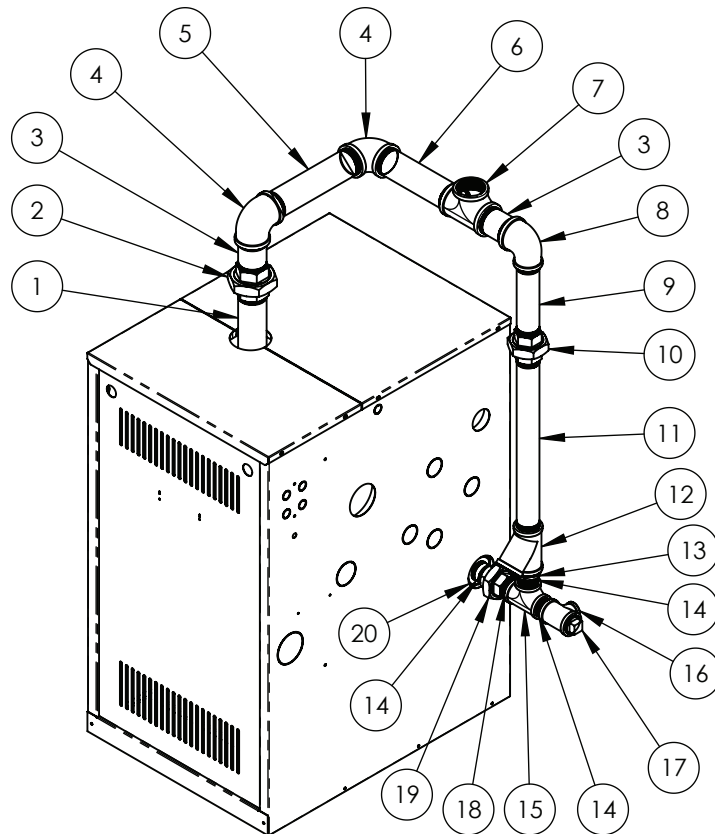
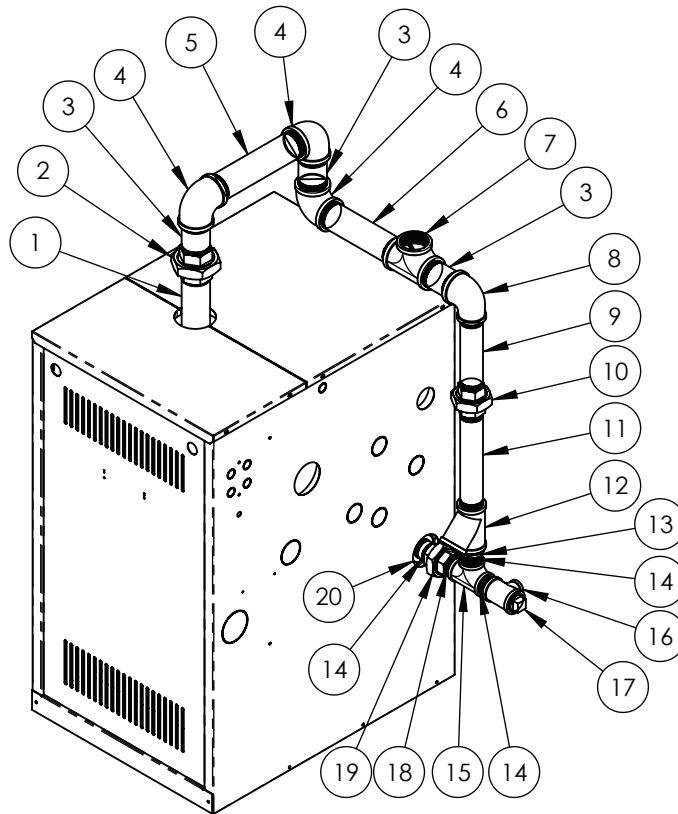

Figure 1: Standard Header Gravity Return Diagram for 3 and 4 Section Boilers
Figure 3: Drop Header Gravity Return Diagram for 3 and 4 Section Boilers
1. Assemble Gravity Return Piping Kit for 3 and 4 section boilers as illustrated in Figure 1 for Standard Header configuration or Figure 3 for Drop Header configuration.